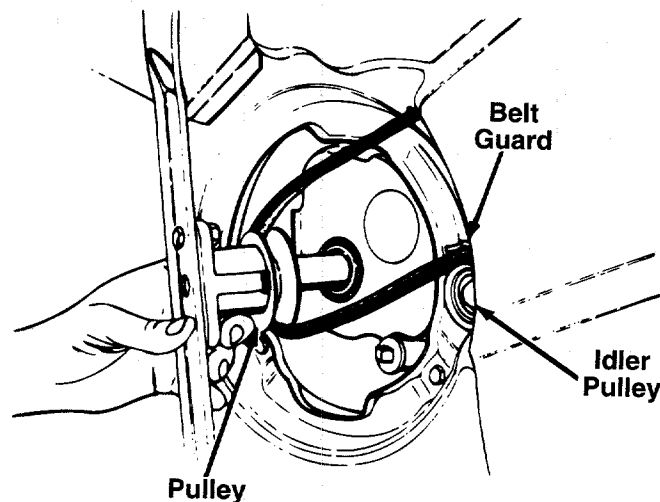

FIGURE 18.
- Loosen (do not remove) the bolt which secures the idler pulley so you can remove the belt from between the idler pulley and the belt guard on the idler pulley bracket. See figure 18.